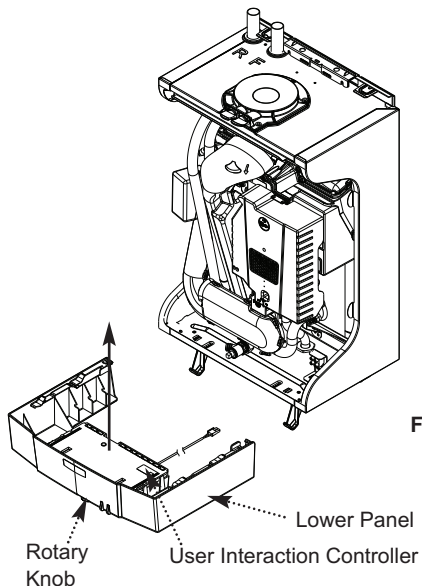

Fig. 60
10.3.12 User Interaction Controller (Fig. 60)